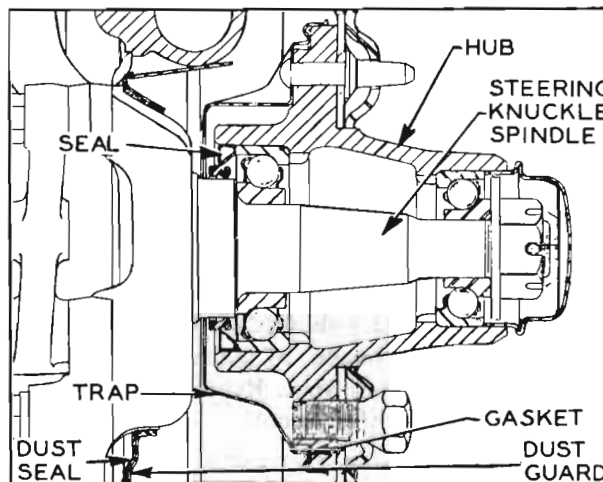

Figure 7-9—Front Wheel Hub and Bearings
9. Install wheel on spindle, then install outer bearing assembly, cone, safety washer and nut. See figure 7-9.